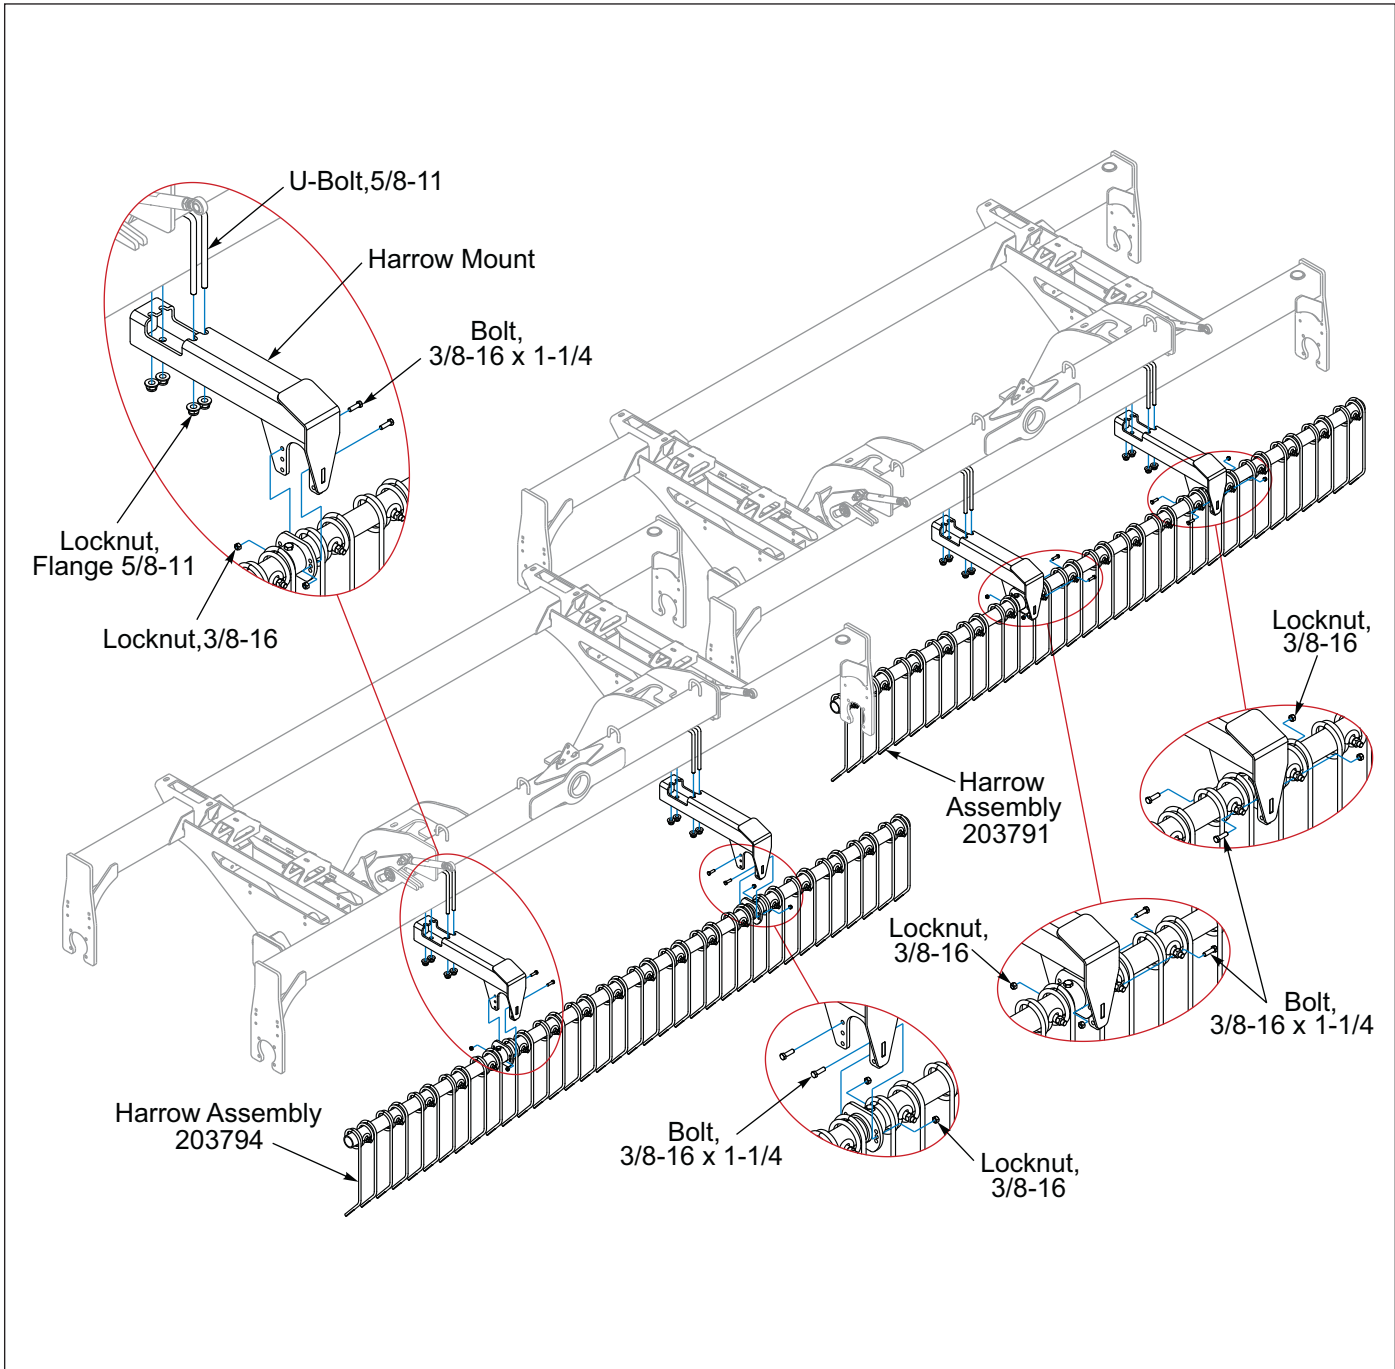

Figure 2-14: Coil Tine Harrow
1. Attach the Harrow Mounts to the frame using 5/8-11 U-Bolts and Locknuts. See Figure 2-14.